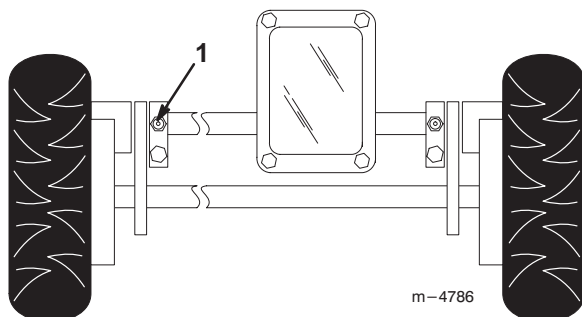

Figure 29
1. Wipe the grease fittings with a clean rag (Fig. 29).